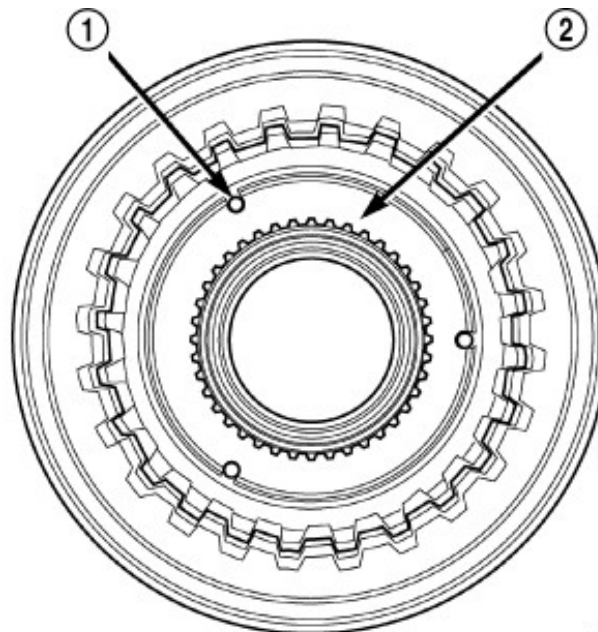

Fig. 16
- 31. Install **NEW** output shaft rear selected thrust plate/shim onto the **NEW** 4C clutch hub/reaction sun gear assembly with the oil grooves facing the hub and the lugs and notches aligned as shown Fig. 16.